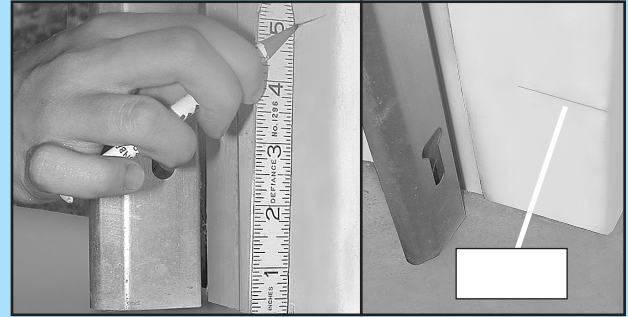

FIG. 3-1
- Mark both sides of garage door frame or wall 5" above floor (Fig. 3-1).